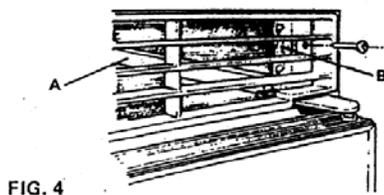

FIG. 4
A ventilator for fitting above the door as shown in fig. 4 is supplied with the refrigerator. The connection pipe, gas cock, and connectors are not supplied by Electrolux as the sizes of these may vary to suit particular installations. The appropriate parts should, however, be readily available from the refrigerator supplier or an Agent dealing in gas fittings (see note in item 11).
Alternatively, wooden battens may be screwed to the sides of the recess, from front to back, bearing down on the top of the cabinet to hold it firmly, as shown at A, fig. 4. Whichever method is used, it must be possible to remove the refrigerator easily for subsequent servicing purposes. The brackets or battens must be in a position where they will not restrict the air circulation over the cooling unit; they must not be positioned across the cabinet over the fins of the condenser of the cooling unit at the rear, otherwise air-flow will be impaired and performance affected.
To fit the upper ventilator, screw a block of wood approx. 25mm (1") square x 66mm (25/e") long, to each side of the recess, 16mm (5/e") back from the front edge, as shown at B, fig. 4. Secure the ventilator to the blocks with a screw through the hole provided at each end.